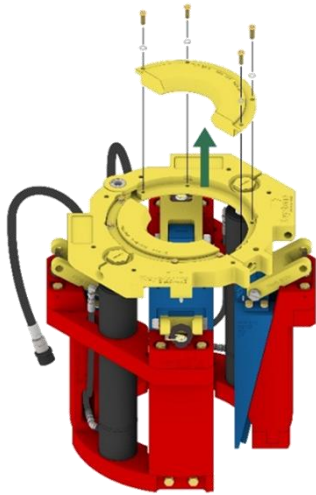

Fig. 23
**Step 1:** First Remove the guide plate retainer bolts and guide plates from the leveling plate. Fig. 23